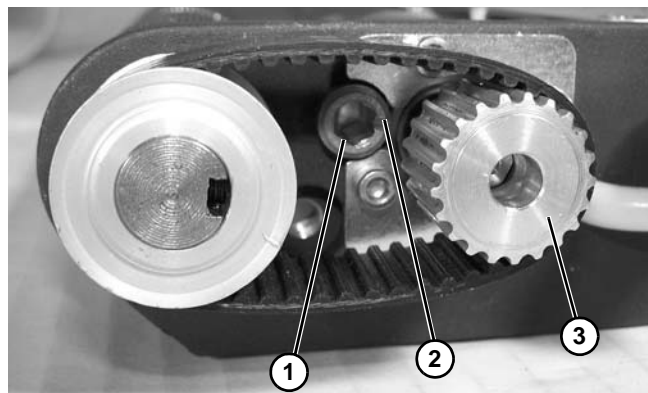
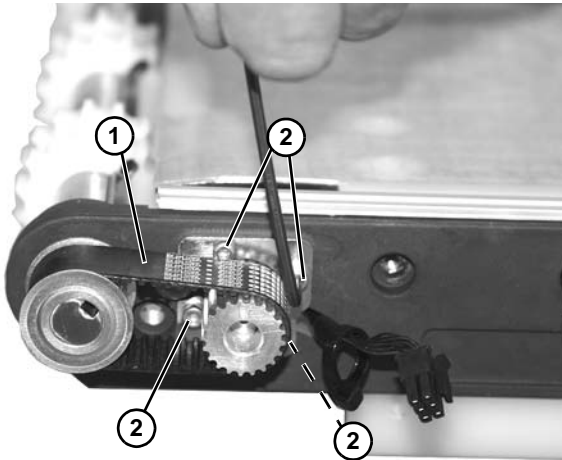

Figure 76
Figure 77
5. Tighten timing belt tension cam (**Figure 76, item 1**), making certain that pointer (**Figure 76, item 2**) on cam is pointing towards the motor drive spindle (**Figure 76, item 3**).
6. Rotate tension cam (Figure 76, item 1) to obtain 1/8 - 1/4" belt deflection at center of belt (Figure 77, item 1) with approximately 3-5 in-lb of pressure. Tighten four clamp plate screws (Figure 77, item 2) to 15 in-lb (1.6 Nm) to secure position.